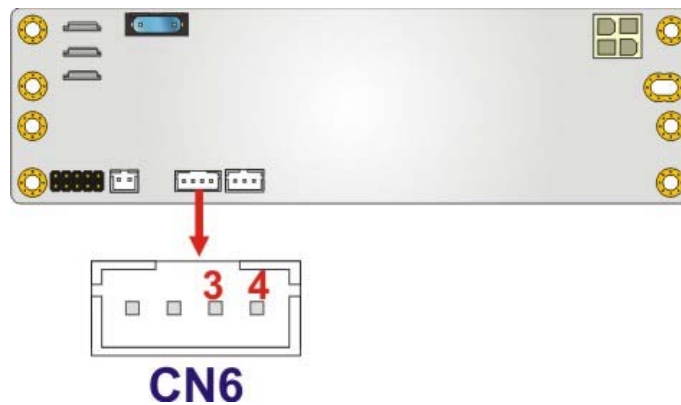

Figure 4-4: Amplifier On Delay Function Connector Location
- CN Location:** See **Figure 4-4**